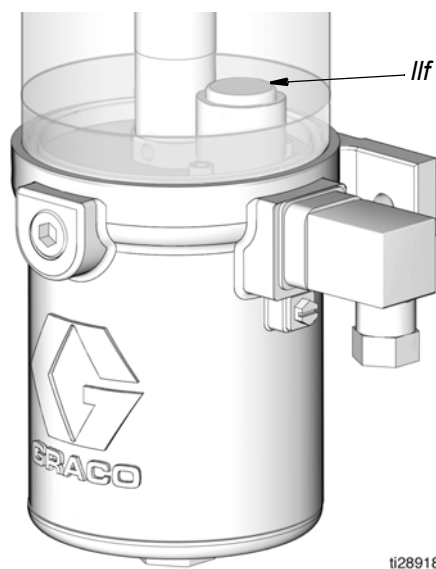

FIG. 10: Low level float in fully traveled down position
As oil is dispensed, the low level float begins to travel down. When the oil in the reservoir reaches low level, the fully traveled down float (shown in FIG. 10) closes the normally open low level switch and a low level signal is sent to the lubricator controller (J).